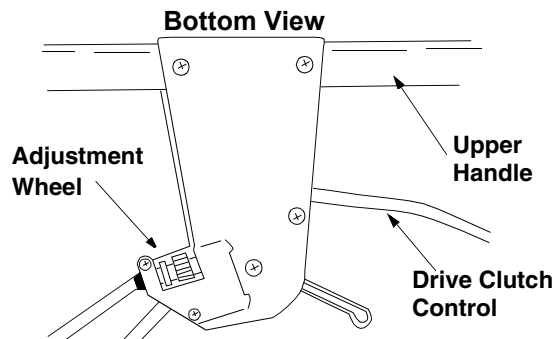

Figure 14
- To resolve above problem, rotate the adjustment wheel with your fingers: clockwise to tighten the cable and counter-clockwise to loosen the cable. See Figure 14.